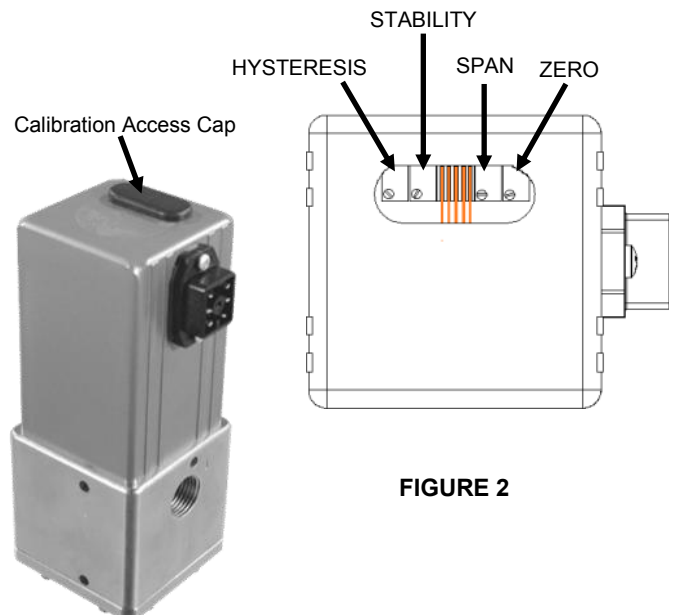

FIGURE 2
4. On the printed circuit board, locate the two adjustment potentiometers **SPAN** and **ZERO**. (Figure 2)